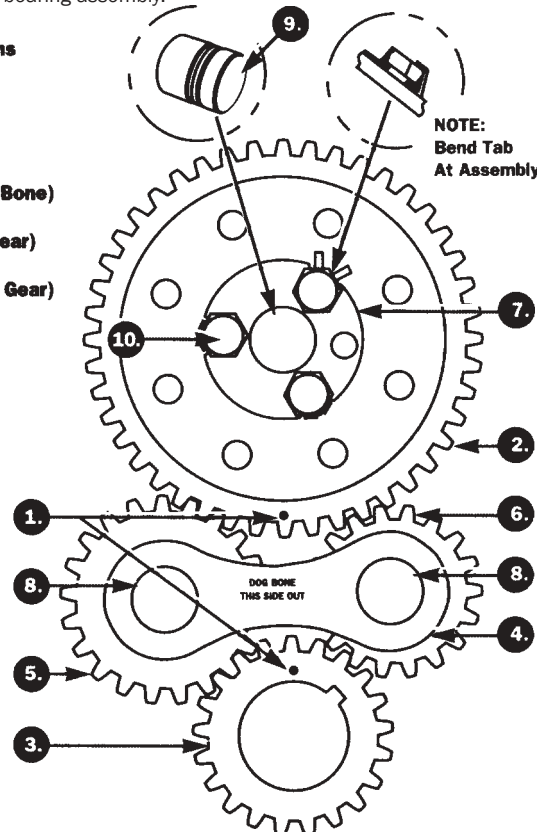

FIGURE 1
10. Install dog bone idler assembly as in figure 1.